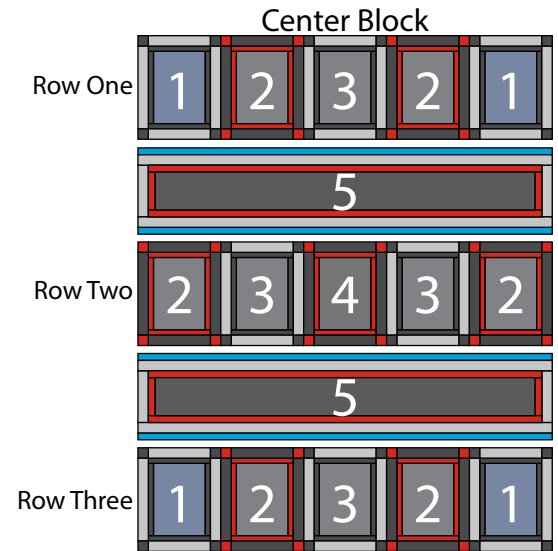

Fig. 12
10. Sew together (1) Block One rectangle, (1) Block Two rectangle, (1) Block Three rectangle, (1) Block Two rectangle and (1) Block One rectangle, lengthwise and in that order from left to right, to make Row One (Fig. 12).
11. Repeat Step 10 and refer to Figure 12 for component identification, placement and orientation to make Row Two and Row Three.
12. Sew together the (3) Pieced Rows from Steps 10-11 in numerical order from top to bottom and the (2) Block Five strips, lengthwise and alternating them from top to bottom, to make the 60 ½" x 70 ½" Center Block (Fig. 12).